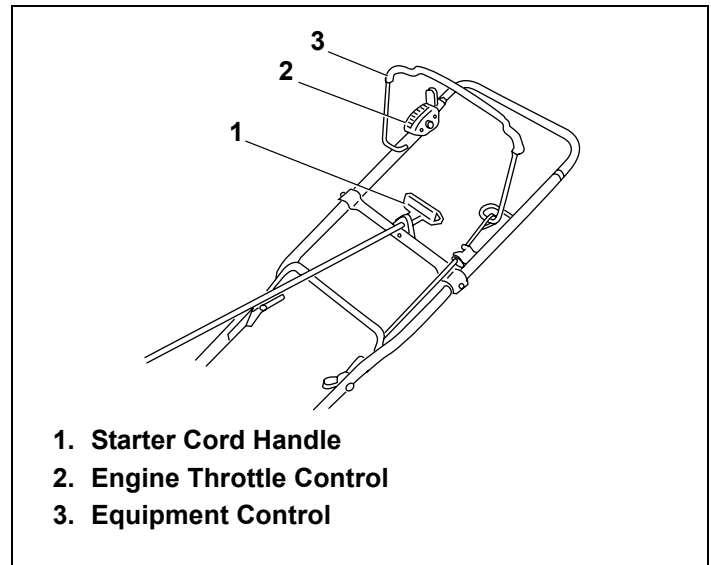

Figure 19. Typical Engine Controls
2. Move engine throttle control to “FAST” position, if present (see equipment manufacturer’s instructions). See Figures 19 thru 21.
4. Operate equipment control to release engine brake or clutch, if present (see equipment manufacturer's instructions). See Figure 19 on page 10. Afterward, continue reading instructions below.
5. Grasp starter cord handle. See Figure 19 on page 10. Afterward, continue reading instructions below.
2. Move engine throttle control to "CHOKE" or "START" position, if present (see equipment manufacturer's instructions). See Figures 19 thru 21 on page 10. Afterward, continue reading instructions below.
If restarting a warm engine after a short shutdown, move engine throttle control to "FAST" position instead of "CHOKE" or "START" position. See Figures 19 thru 21 on page 10. Afterward, continue reading instructions below.
3. Operate equipment control to release engine brake or clutch, if present (see equipment manufacturer's instructions). See Figure 19 on page 10. Afterward, continue reading instructions.
4. Grasp starter cord handle. See Figure 19 on page 10. Afterward, continue reading instructions below.
- a. *Momentarily move engine throttle control back to "CHOKE" position. See Figures 19 thru 21 on page 10. Afterward, continue reading instructions below.*